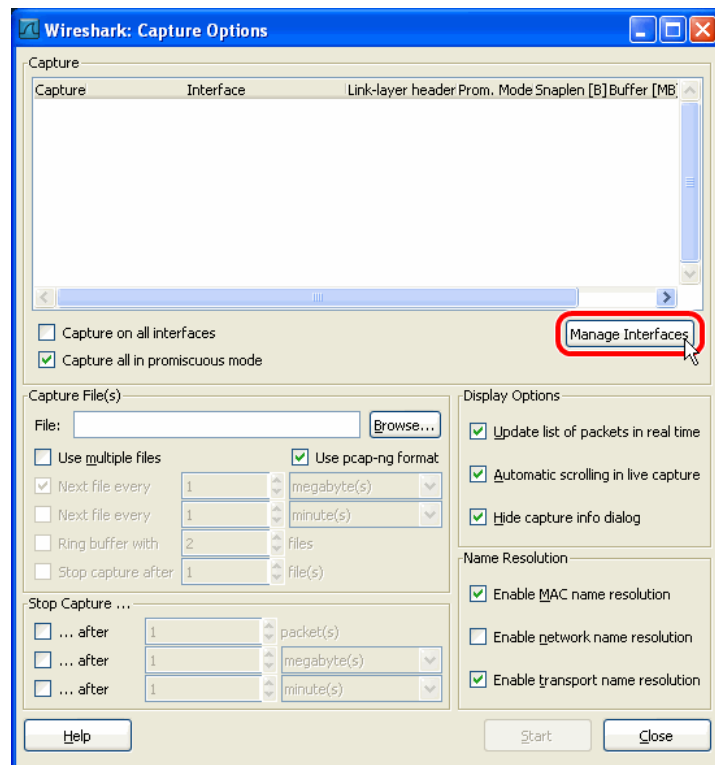

Figure 162: Wireshark Capture Options Dialog.
1. Open Wireshark and choose the menu **Capture → Options...**. This opens the **Capture Options** dialog as shown in Figure 162.